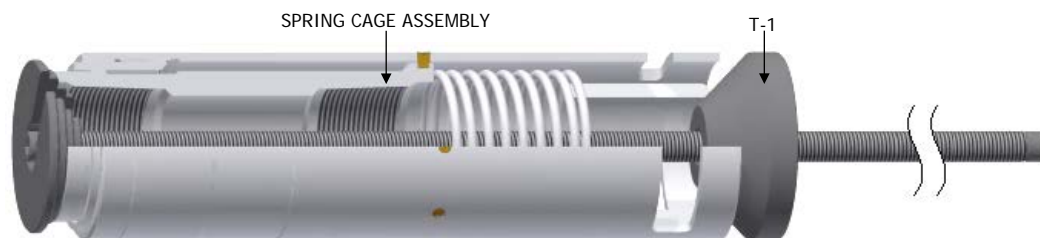

Fig. 2
J-1.17.1) Position assembly tool (T-1) hand-tight against top sub (1) and spring cage (5) of spring cage assembly (Fig. 2).